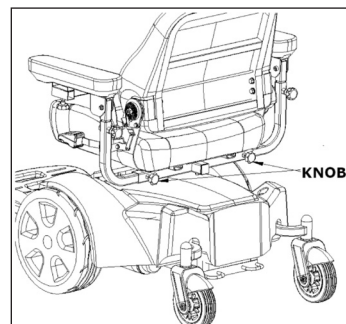

Figure 23. Armrest width adjustment
1. Loosen the knob which is fastened on the pipe. (See figure 23)